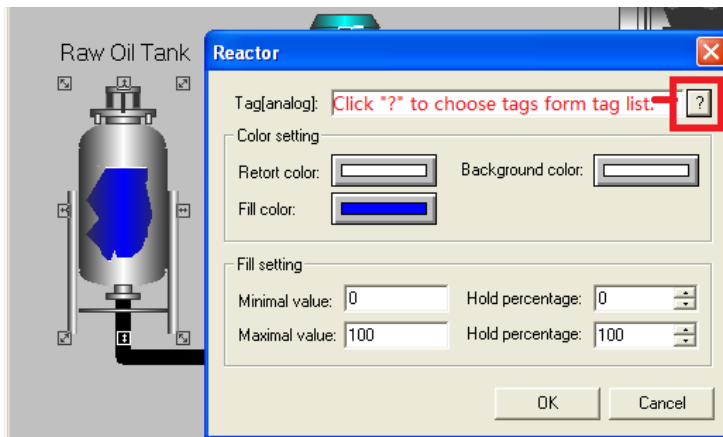

Fig. 31 Animation Configuration with existed tags
1. Double click the tank named "Raw Oil Tank", and configure the animation using tag "RawTank"; (See Fig. 31, 32)